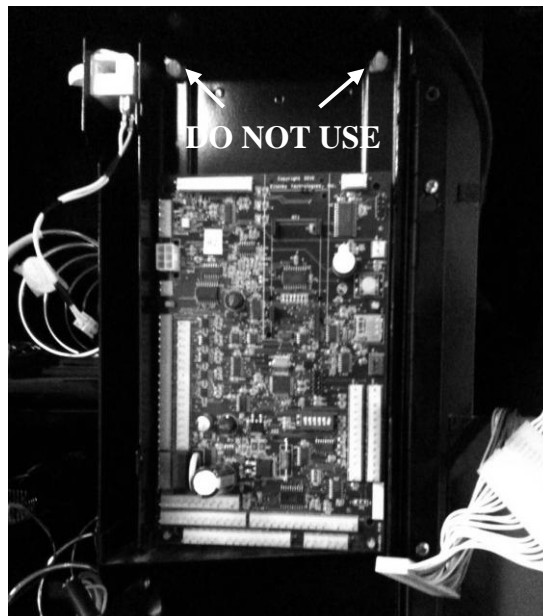

Figure 12.
9. Install retrofit controller using four of the mounting holes. This board will mount using the **BOTTOM** four of the existing snap fasteners. See Figure 12 for board orientation.